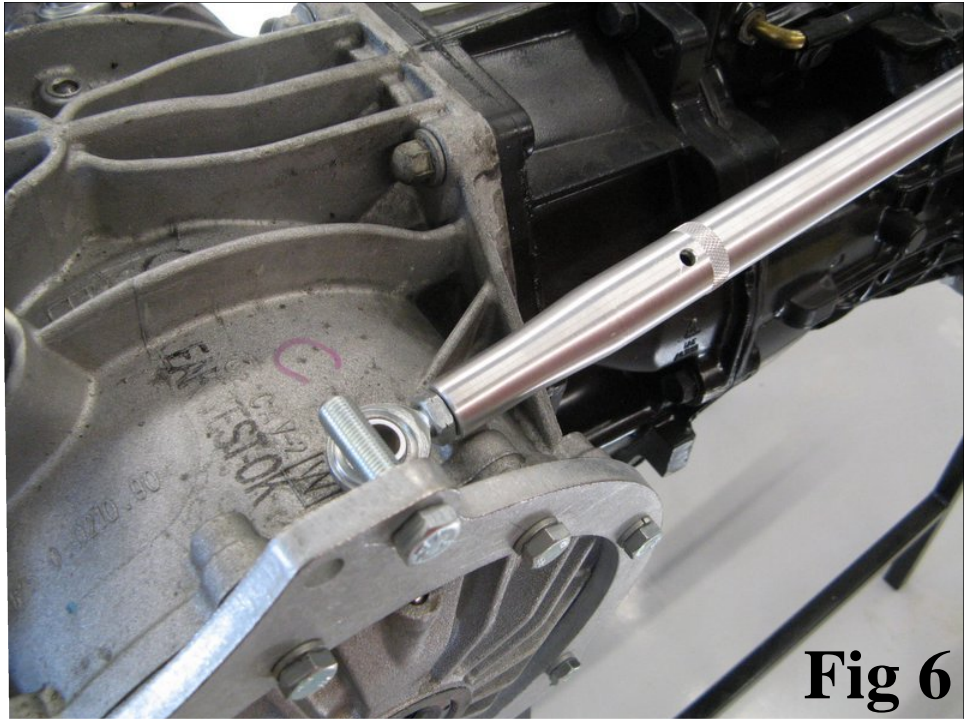

Fig 6
21. Install the 2 supplied 3/8 24 x 1 1/2" bolts into the top front holes in each differential bracket. Be sure the bolts face in towards the center of the rear. (fig. 6)
22. Holding the rear rod end with your fingers, spin the counter clockwise until the ball end goes onto the 3/8 bolt. (fig. 6)